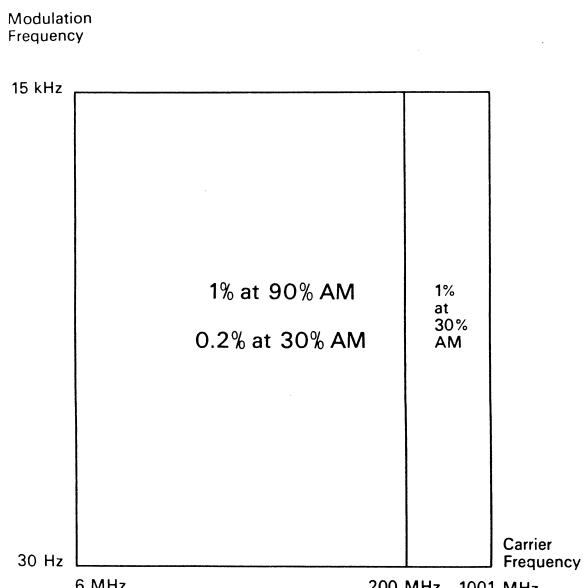

Fig. E2. Distortion for modulation percentage measurements.
14) Read the modulation percentage. Check whether the reading is the same for both peaks of modulation; a difference indicates distortion of the modulation envelope. See Fig. E2, and refer to SECTION B - SPECIFICATIONS under "AM MODULATION Distortion".